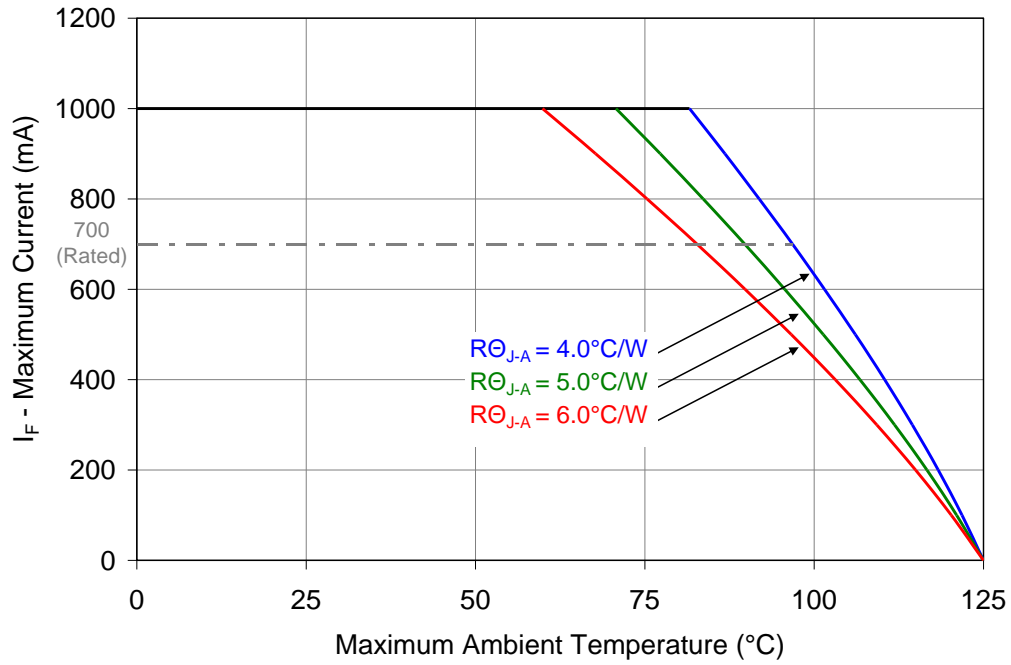

Figure 10: Maximum forward current vs. ambient temperature based on $T_{J(MAX)} = 125^\circ\text{C}$
- Maximum DC forward current (per die) is determined by the overall thermal resistance and ambient temperature. Follow the curves in Figure 10 for current derating.
Notes for Figure 10: